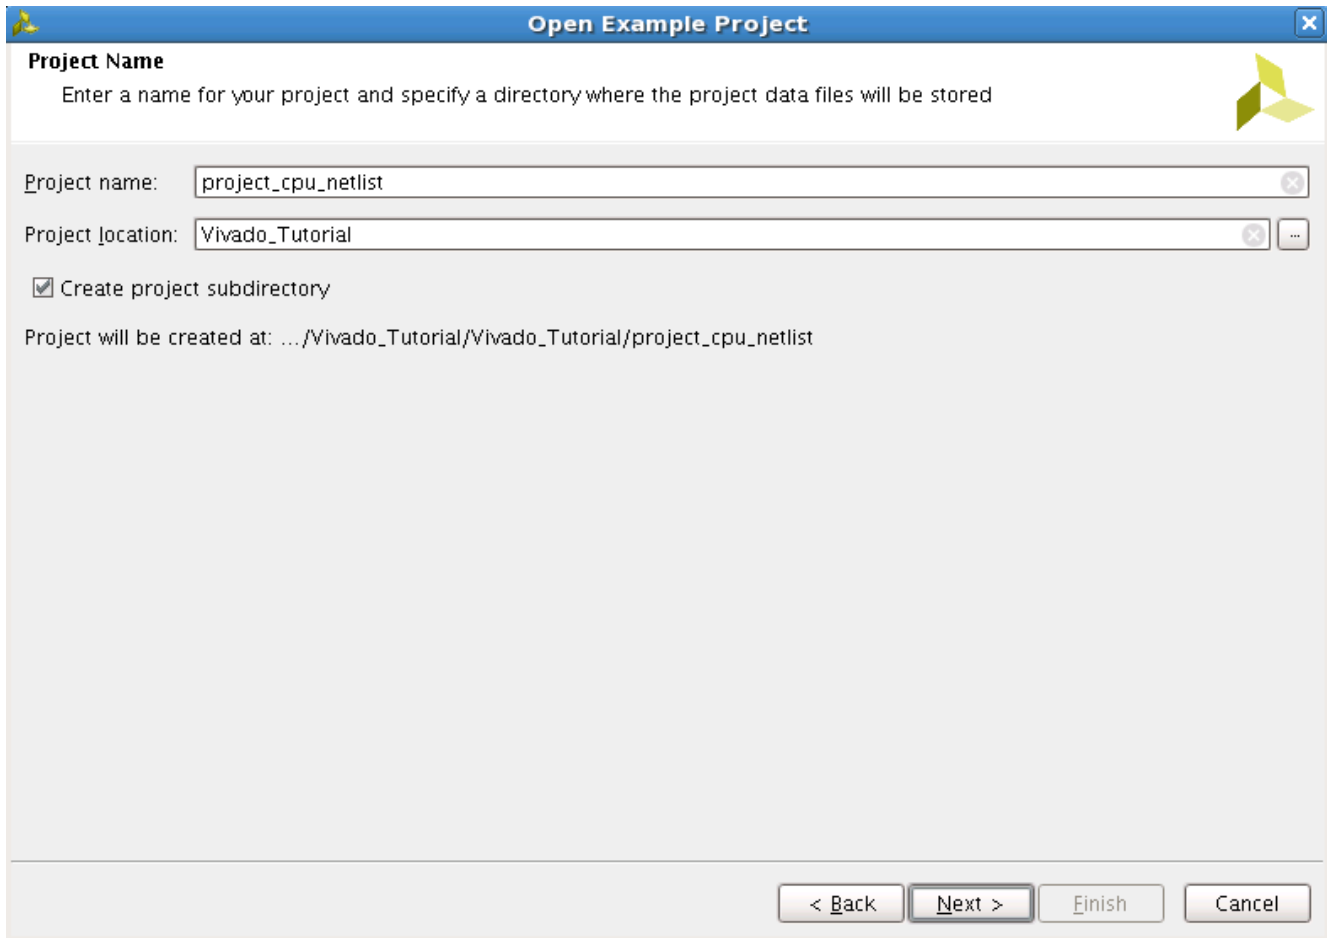

Figure 4: Project Name Page of the Open Example Project Wizard
6. In the Project Name page, specify the project name and location as shown in Figure 4.